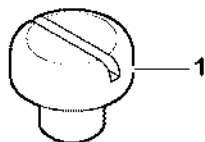

Figure 24
15. Install the new O-ring (2, Figure 24) to the plug (1, Figure 24).